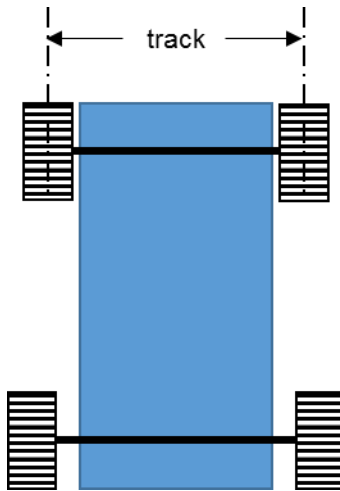

Figure 1. Top-view of go-kart showing track measurement.
- Minimum track (center to center distance between the tires, Figure 1) is 32in (81cm).